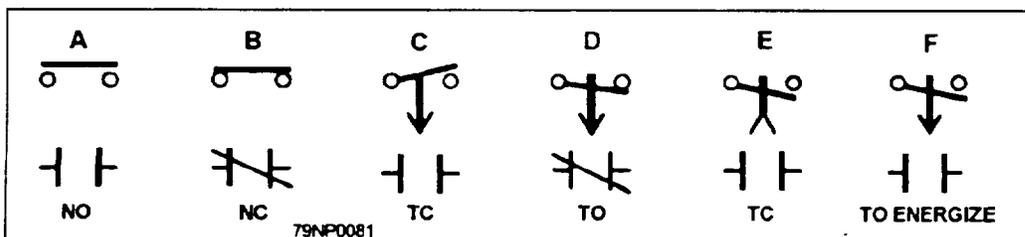

Figure 2-34.—Electrically operated contacts.
Schematic wiring diagrams have both push-button and electrically operated contacts. Two different methods of control contacts are shown in figure 2-34. View A shows the normally open (NO) position that closes when operated. View B shows the normally close (NC) position that opens when energized. Views C, D, E, and F show timer contacts. After being energized, these contacts will take some time to close or open. This time element is controlled by a timer motor, a dashpot, pneumatically, or by magnetic flux. Those devices that are timed closed or open have the following indications at the lower contacts: TC (timed closed), TO (timed open), and TO ENERGIZE (while this contact is already shown open, before it can be timed open, it must close).